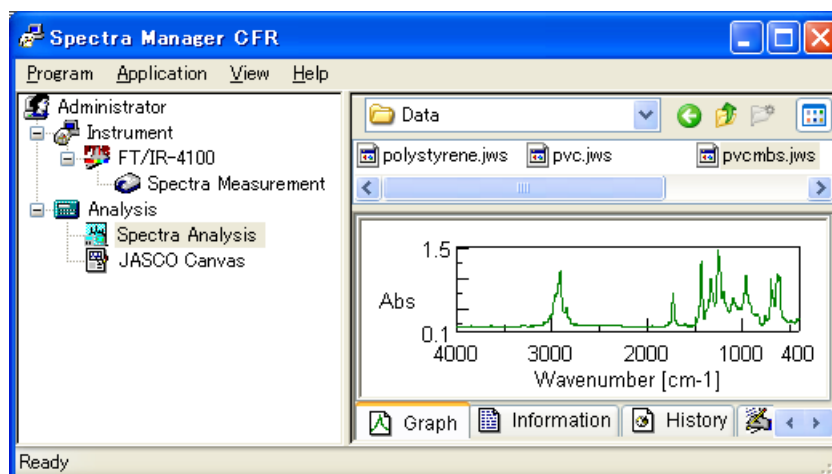

Figure 2.4 [Spectra Manager CFR] window (when [Spectra Analysis] is selected).
- 1) Click [Spectra Analysis] displayed in the application display field. Details display field shows detailed information of the [Spectra Analysis] (Fig. 2.4). The upper part of the details display field shows a list of file names in the selected folder and the lower part shows the contents of the selected file in the upper part.